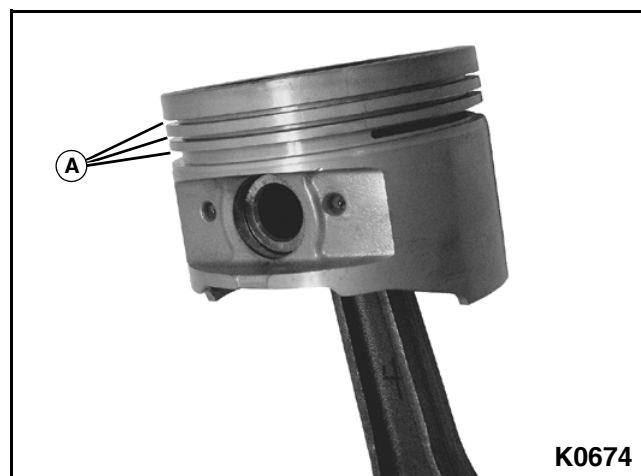

Figure 3-210
1. Clean piston ring grooves (A) using a piston ring groove cleaning tool or an old piston ring. **See Figure 3-210.**